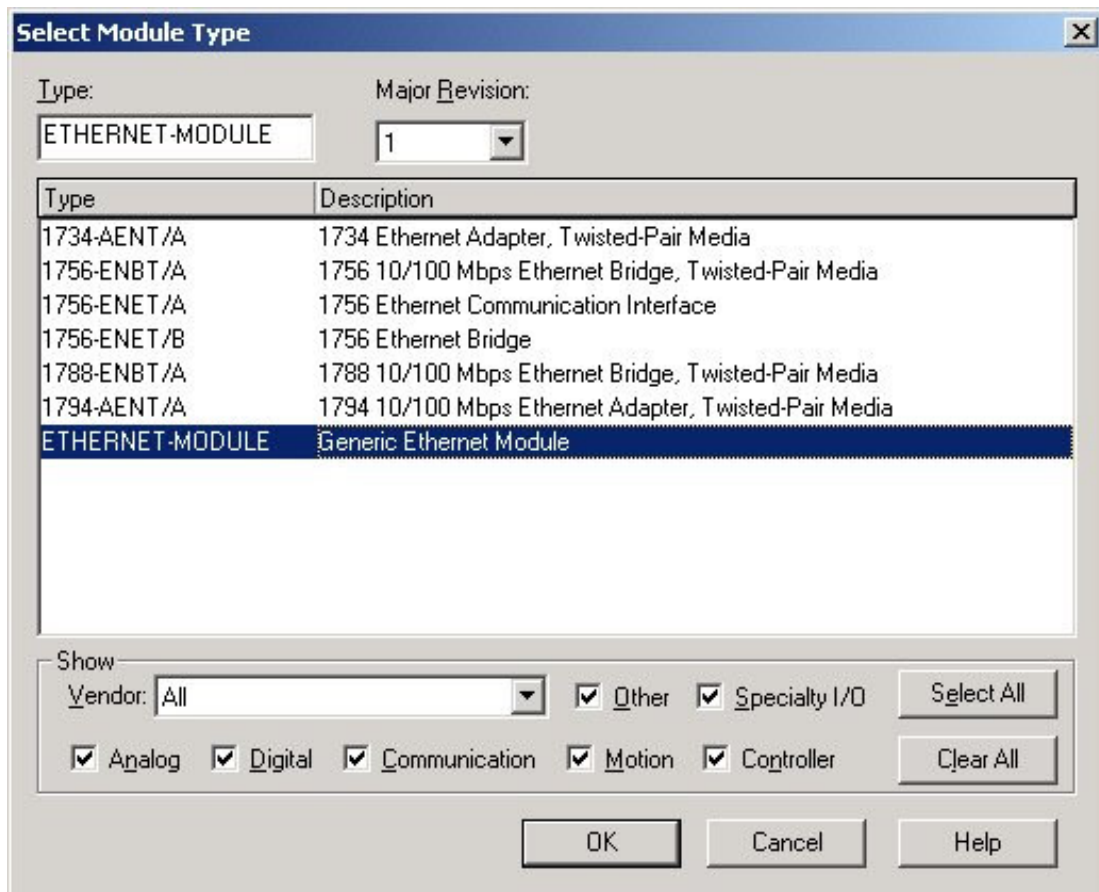

Figure 2
3. From the list of devices select Generic Ethernet Module as shown in Figure 2.